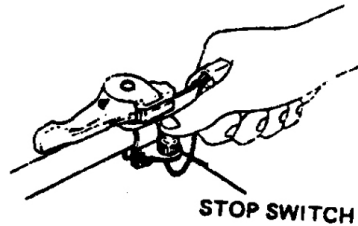

Fig. 16
- 1) Decrease the engine speed, and depress the stop button until engine has stopped. (Fig. 16)